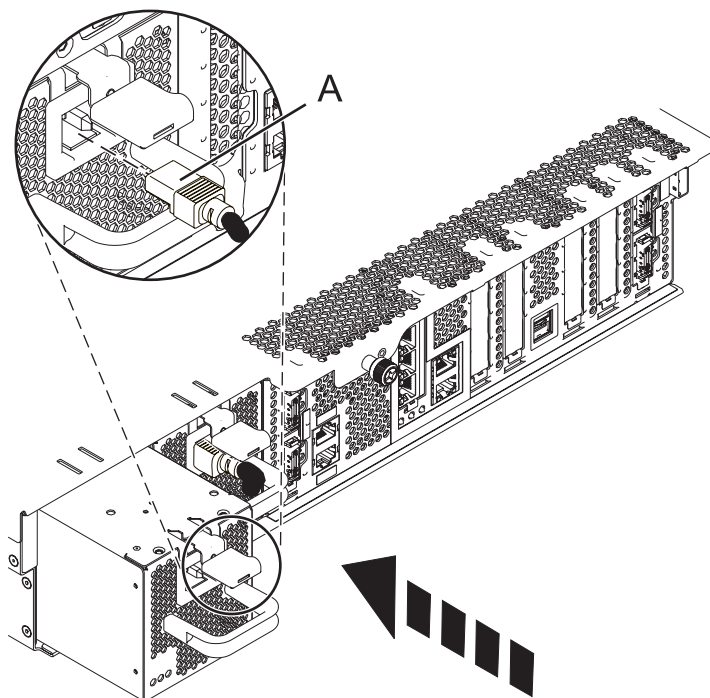

Figure 7. Replacing a power supply
2. Push the new power supply into the system until the latch locks in place as shown in Figure 7.
3. Reconnect the power cable (A) to the front of the power supply, as shown in Figure 7 on page 9.